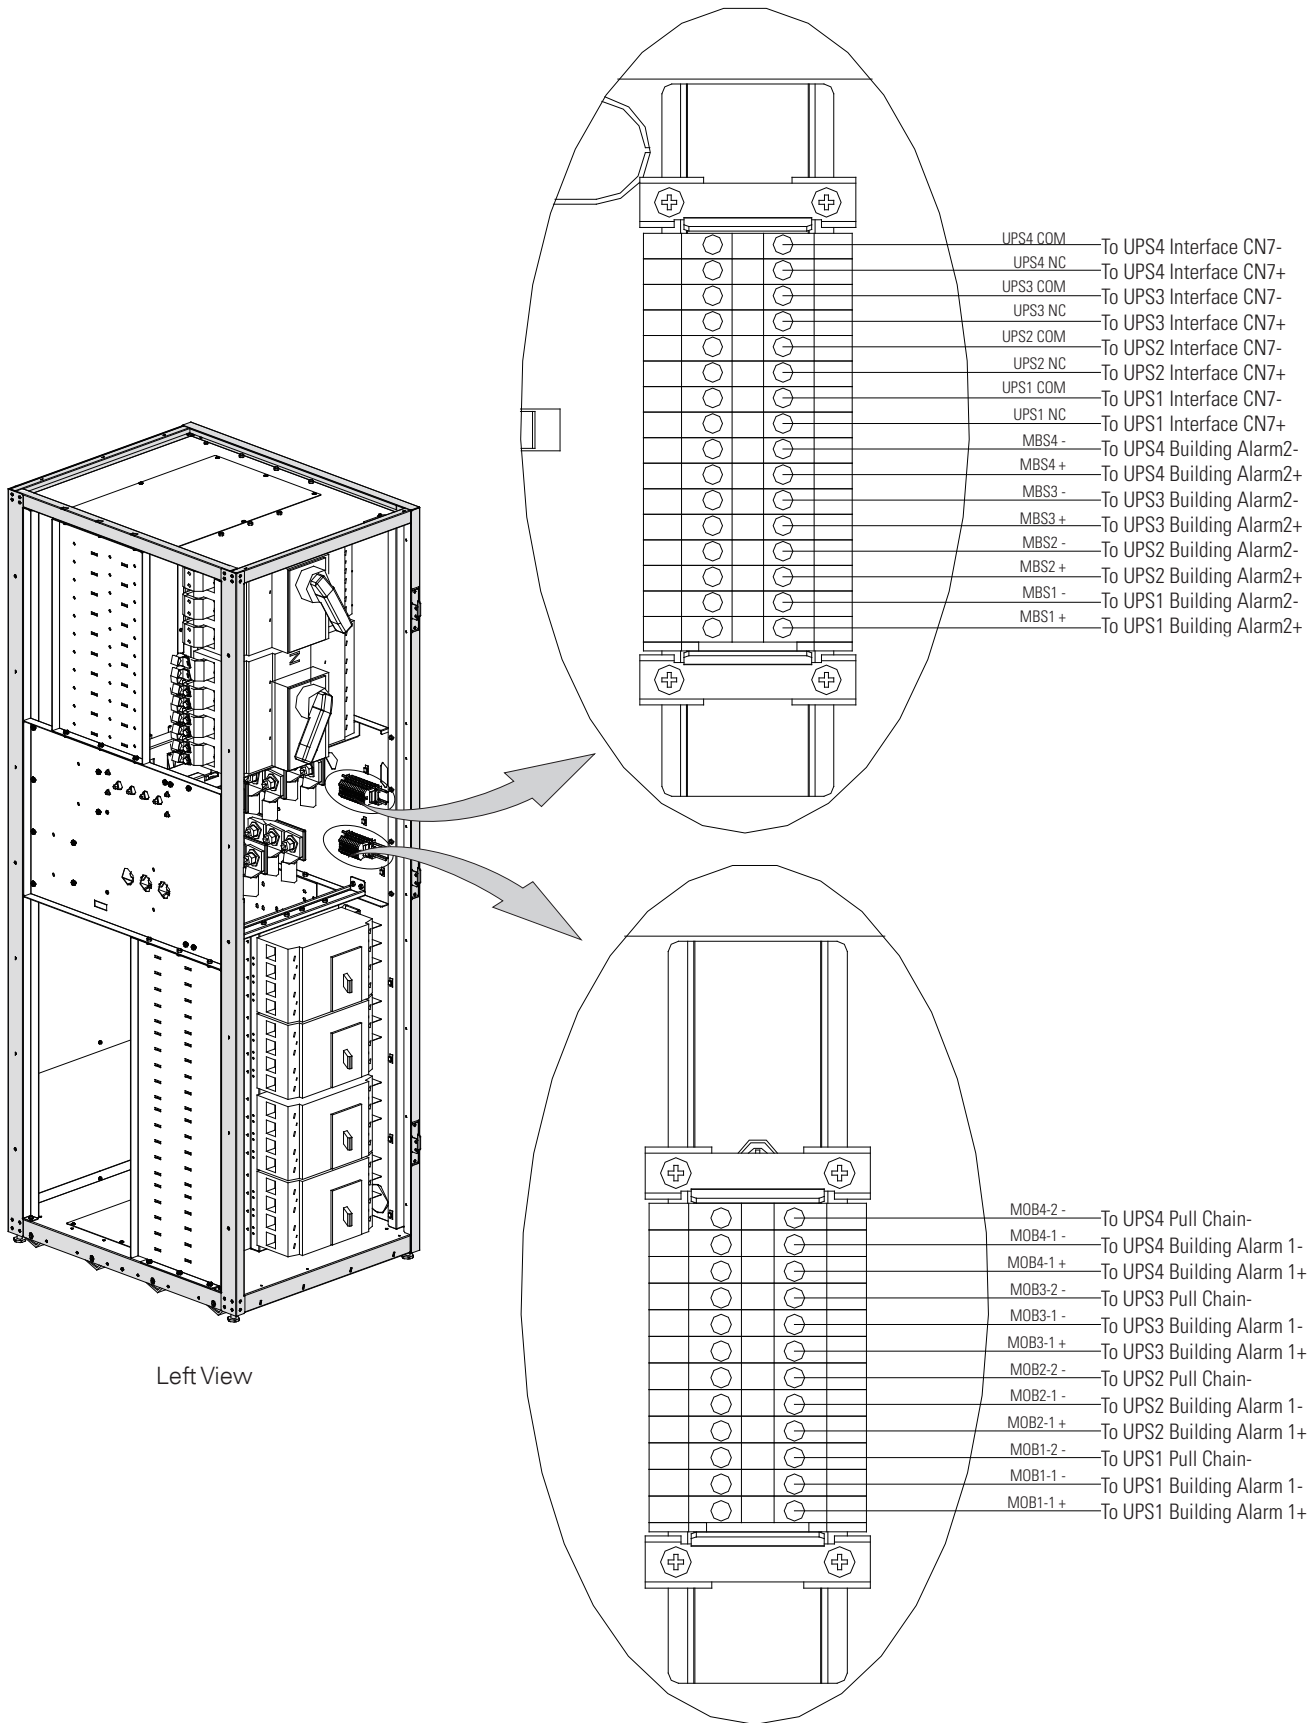

Figure 4-6. Power and Signal Terminal Locations
Refer figure 4-6 to install the signal wires. The wire code is minimum 22AWG.
2. To located the appropriate terminals and review the wiring and terminal requirement see Figure 4-6.